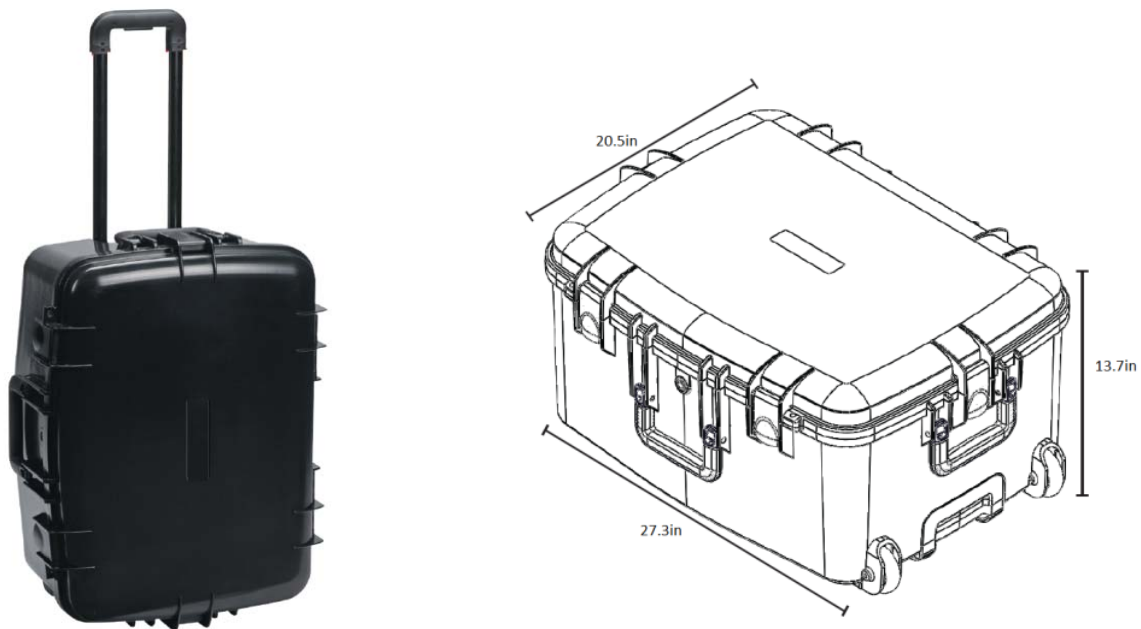

Figure 6 Optional Travel / Shipping Case
- (1) Ruggedized shipping case Barfield P/N 194-00073 see drawing in Figure 6.
- (2) Nav-Aids Pitot Static Adapters – Contact Barfield with your aircraft requirements
- (3) Wi-Fi enabled tablet - either Android or IOS device.
- (4) Wi-Fi Application – available as free download from either Google Play Store or Apple App Store.
- (5) Ruggedized shipping case Barfield P/N 194-00073 see drawing in Figure 6.
- (6) Nav-Aids Pitot Static Adapters – Contact Barfield with your aircraft requirements
- (7) Wi-Fi enabled tablet - either Android or IOS device.
- (8) Wi-Fi Application – available as free download from either Google Play Store or Apple App Store.